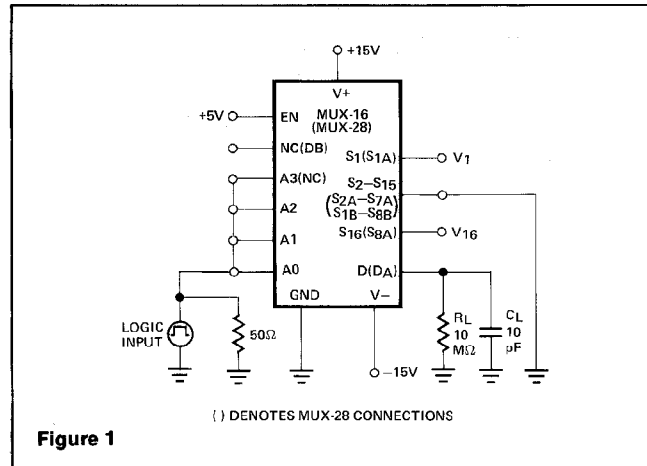

Figure 1
| Switching Time (t_{TRAN}) | t_{PHL} | (Note 1) Figure 1 | 2 | 1 | 2.6 | 1.5 | μS |
When operating with negative input voltages, the gate-to-channel diode will be turned on if the voltage drop across an ON switch exceeds $-0.6V$. While this condition will cause an error in the output, it will not damage the switch. In lab tests, the multiplexer output has been loaded with a $0.01\mu F$ capacitor in the circuit of Figure 1. With $V_1 = -10V$ and $V_{16} = +10V$, the logic input was driven at a 1kHz rate. The positive-going slew rate was $0.3V/\mu Sec$ which is equivalent to a normal I_{DSS} of 3mA. The negative-going slew rate was $0.7V/\mu sec$ which is equivalent to a "reverse" I_{DSS} of 7mA. Note that when switch one (1) is first turned ON it has a drop of $-20V$ across its terminals. In spite of that fact, the current is limited to approximately twice its normal I_{DSS} .